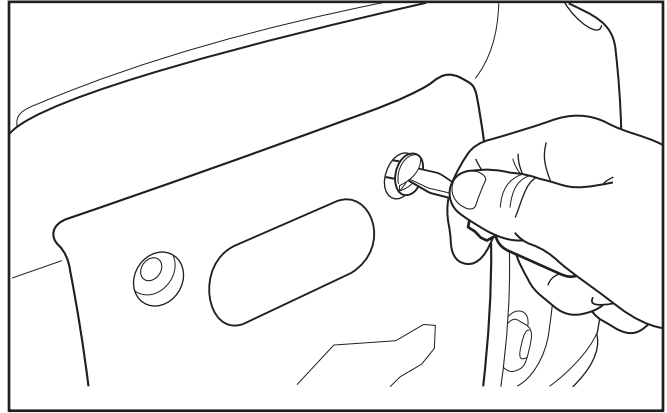

Figure 4
2. Loosen the side maintenance cover screws and remove the side maintenance cover (Figure 4).